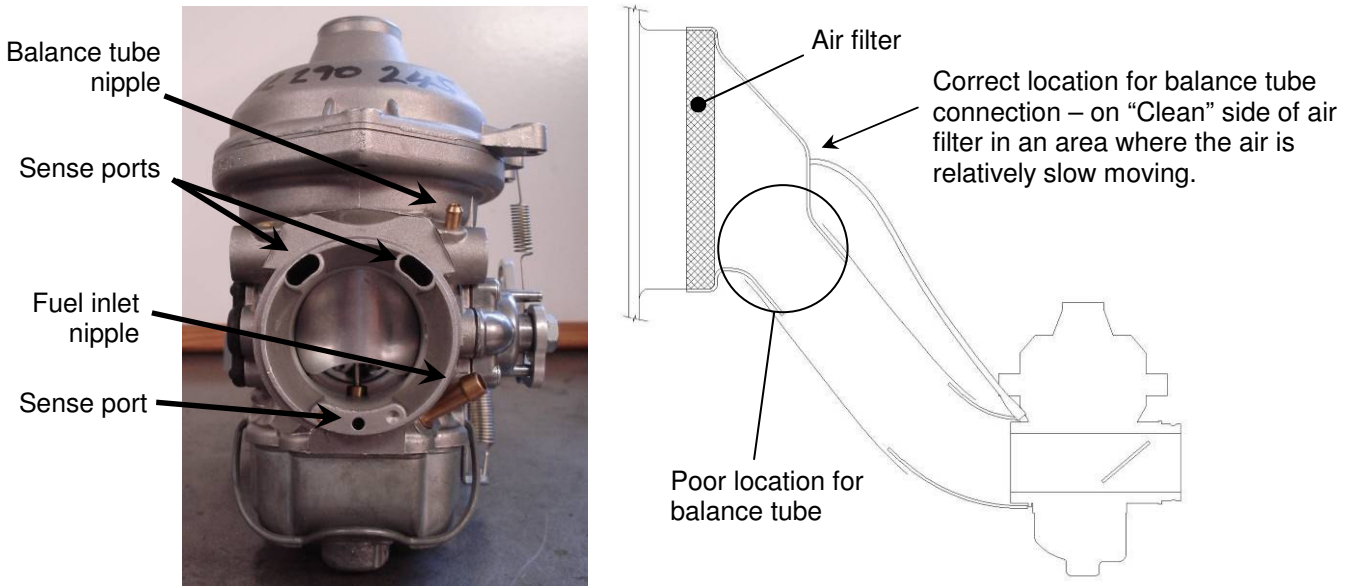

Figure 30. Carburettor Intake & Balance Tube Detail
- The Bing carburettor has a Balance tube (also known as a "sense tube") which connects the carburettor to the air box. The tube runs from a nipple on the carburettor to the airspace in the air box on the "clean" side of the air filter. This tube is part of a system or ports which "tells" the carburettor how hard the engine is working and controls how the carburettor varies the fuel / air mixture delivered to the engine. Tuning issues and poor running will result if this tube is blocked or connected to the wrong spot. Figure 30 shows the tube installation. Note that the balance tube must not be connected to the air box in a location where the air is moving fast – rapid flows produces pressure changes and boundary layer effects which mean the balance tube gives the carburettor "bad" information, which can cause poor mixture control and running issues.